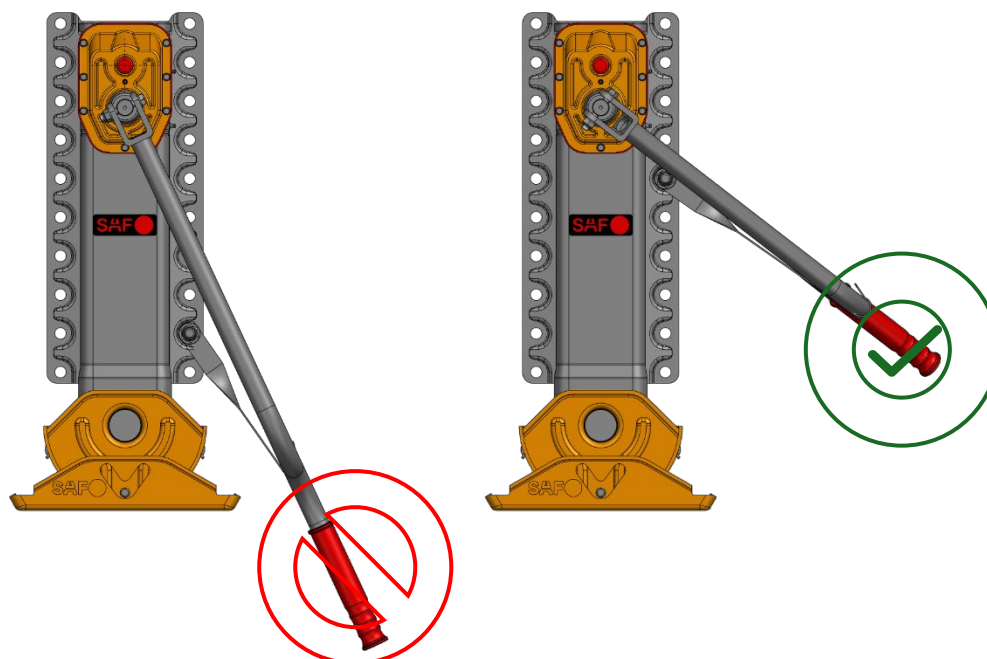

Figure 24
With the smallest mounting height, low stroke 310 / 350 mm and longest crank, please use a suitable crank holder so that the crank is not installed lower than the landing leg. See below **Figure 24**.
- The appropriate crank must be selected in accordance with Table 17, page 23. In particular, the crank length must be taken into account (see Figure 24).